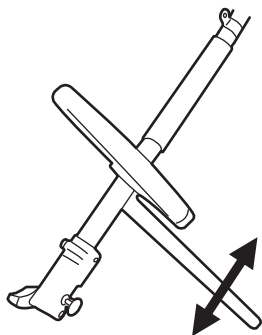

Fig. 15
- 1). Loosen the bolts on the auxiliary handle (A15) and adjust the position. (See Fig. 15)